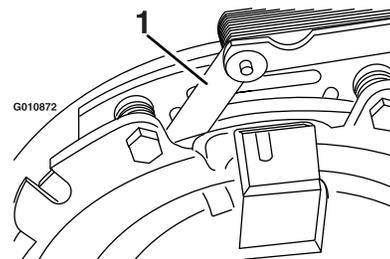
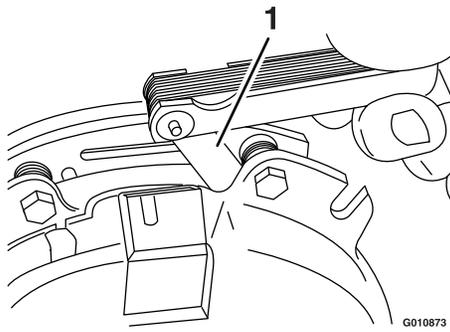

Figure 84
Figure 85
- E. Using a 0.25 mm (0.01 inch) thick feeler gauge, verify that a gap is present between the rotor and the armature face on both sides of the brake pole as shown in Figure 84 and Figure 85.